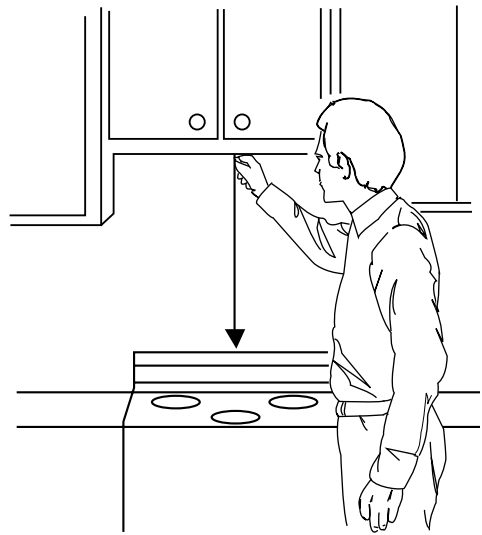

Figure 18
1. Using a plumb line and (metal) measuring tape, find and mark the vertical center line on the back wall, as in Figure 18.